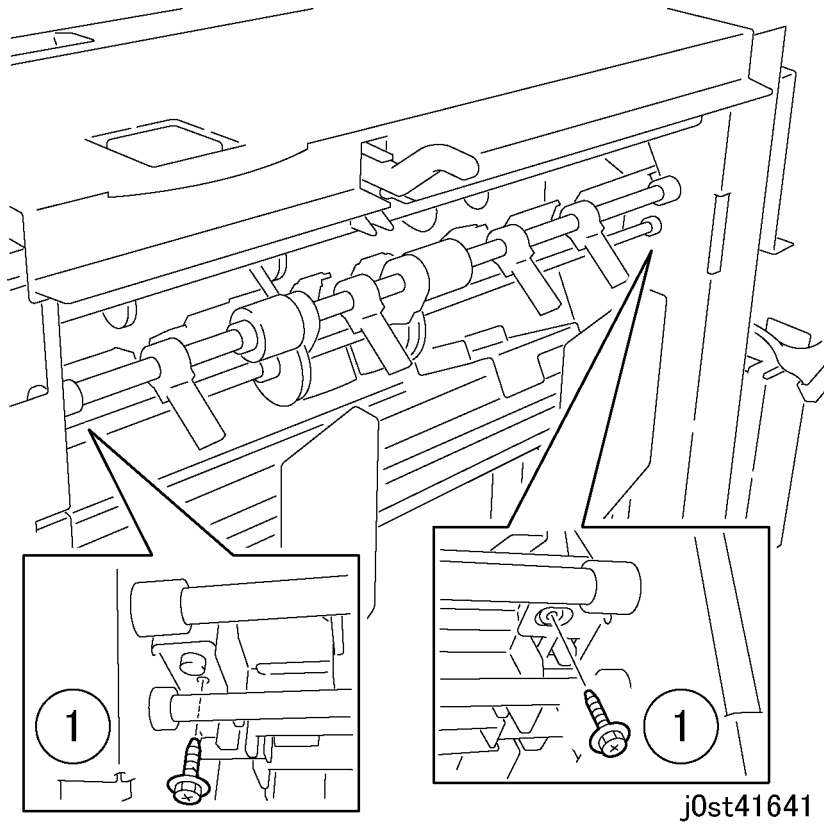

Figure 2 Removing the screws (j0st41641)
4. Remove the screws. (Figure 2)